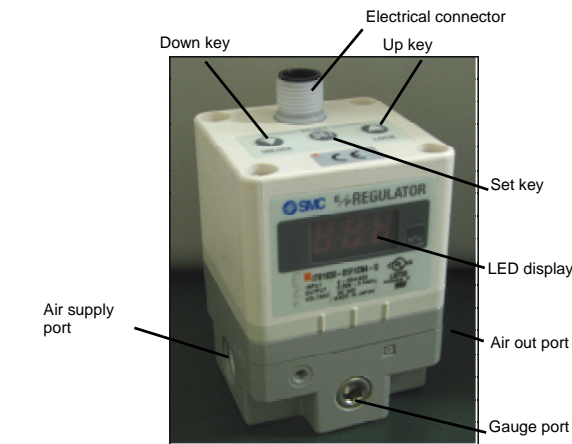

Fig. 6 - Key features of the ITV.
- Push 'Up' and 'Down' keys (Fig 6) together for longer than 3 seconds.